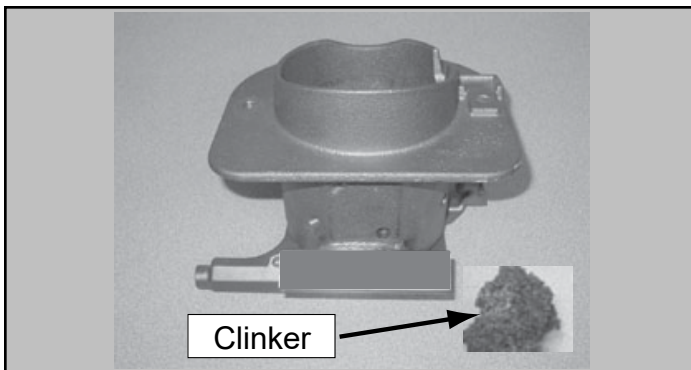

Figure 17.2 - Fire pot with large clinker
- d. It may be necessary to use your fire pot clean-out tool to chip away material that has built up on the sides of the fire pot and to push out any clinkers (**Figure 17.2**).